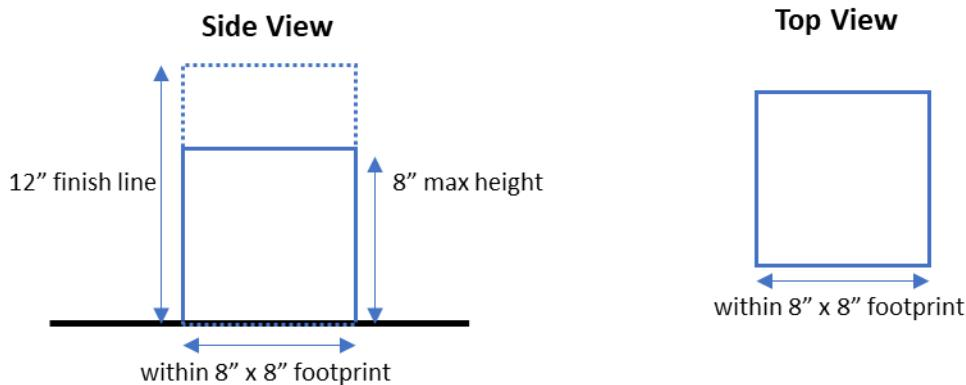

Figure 1 – Side and top view of lifting device envelope and finish line.
- b. The device and its load must fit within a footprint of 8” x 8” square (see Figure 1) for the entirety of the task and be self-standing.